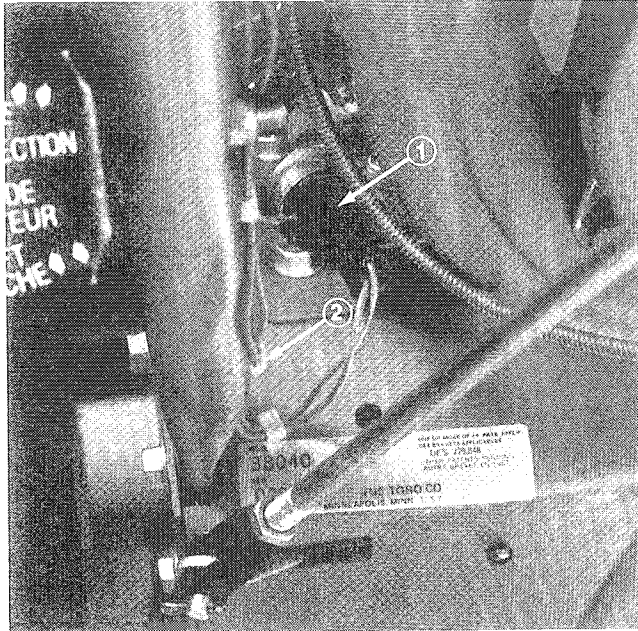

Figure 11
1. Plug handle wires firmly into plug on engine (Fig. 11).
2. Push plastic retaining clip holding the wires into hole on top left of main frame (Fig. 11).